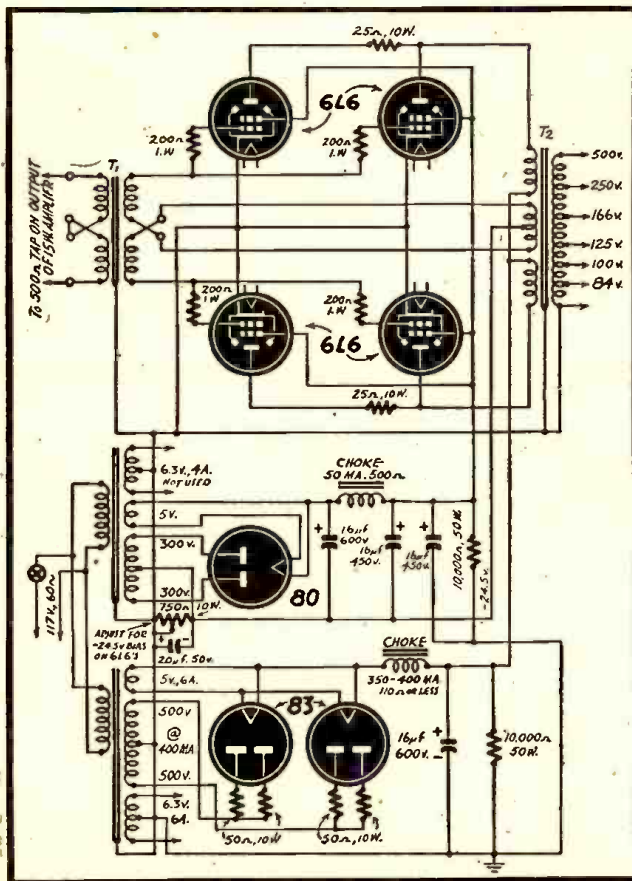

Fig. 2—High-power amplifier stage for class-B operation.
A. The diagram (Fig. 2) shows a 100-watt amplifier with power supply. If you have a good 15 watt driver, it should give more than ample power for driving the booster. Perhaps you have a power supply but a good one has been shown so that you may check it. Approximately 400 milliamperes plate current are required by the 6L6's at maximum signal. The grid bias voltage should be adjusted before the plate voltage is applied. In construction you may find that the grid, screen, and plate leads need shielding. The diagram will clear up any other questions you may have in mind.